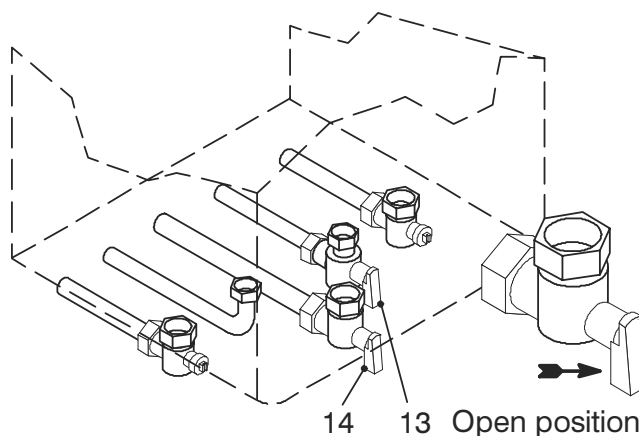

Fig. 7.1
- 2 Open the gas cock 14 (Fig. 7.1) on the appliance and check the gas connector on the appliance for leaks.
- 2 Open the cold water inlet valve 13 (Fig. 7.1).